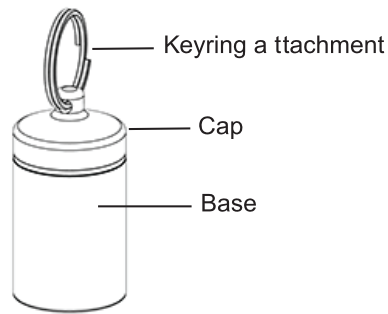

Figure 5-22: Vapor Mode inlet adapter
Step 1: Remove the cap from the Vapor Mode inlet adapter (Figure 5-22) by twisting counterclockwise.